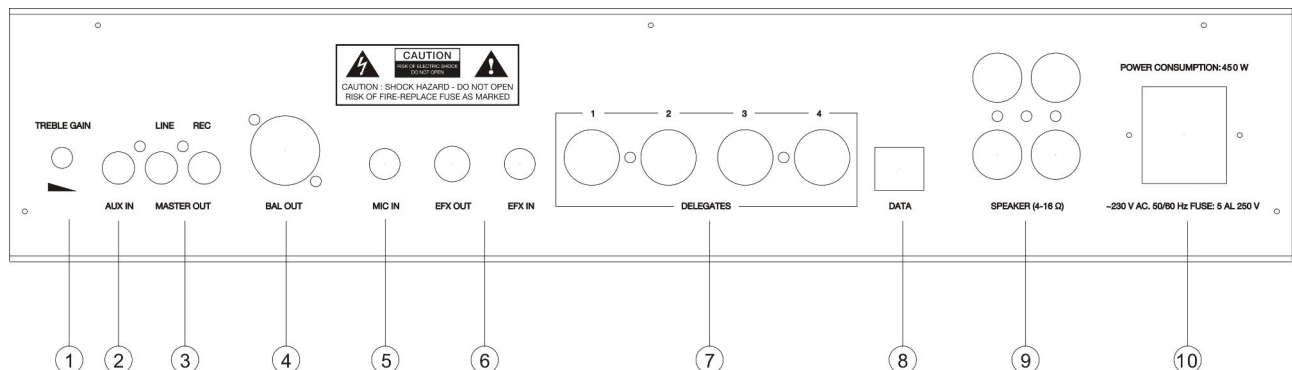
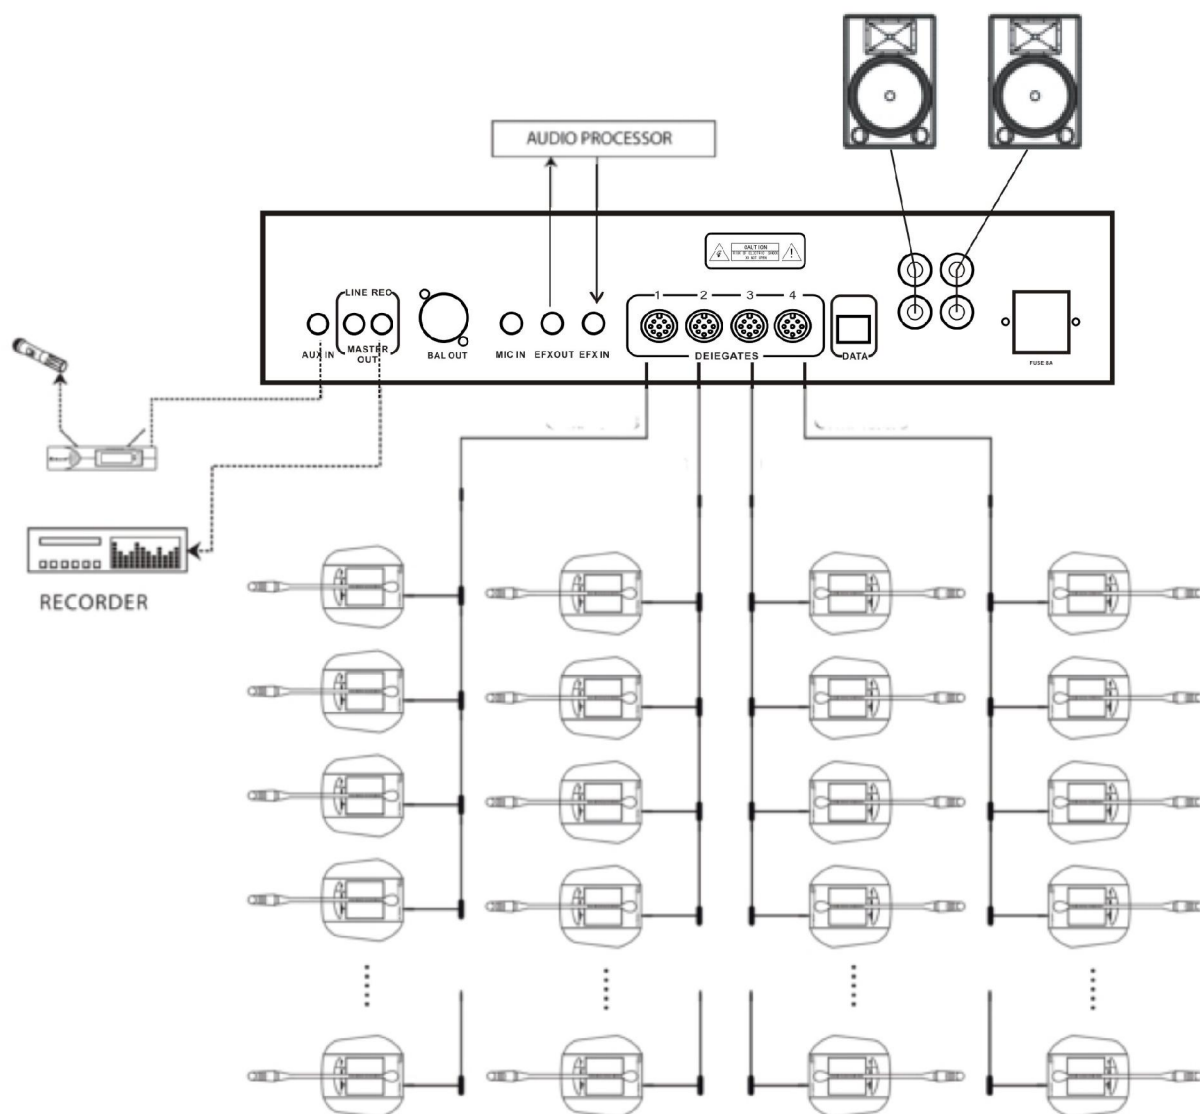

fig.2
fig.5
Sets the audio level of any dynamic microphone connected to MIC IN (fig. 2 – ref. 6)
Sets the audio level of any audio source (wireless microphone, CD player, etc.) connected to AUX IN (figure 2 – ref. 7)
Sets the level on MASTER OUT (figure 2 ref. 4, 5)
Connect the unit to 230 V AC 50/60 Hz mains . Use the connection cables provided to connect the daisy-chained stations to the 4 **BASE INPUT**s (figure 2, ref. 2) as shown in **figure 5**, paying attention not to connect more than 30 stations to each line and no more than 64 stations altogether.
Connect this input to one of the 4 H-7000 outputs using the cable provided (**fig. 2, ref. 2**)